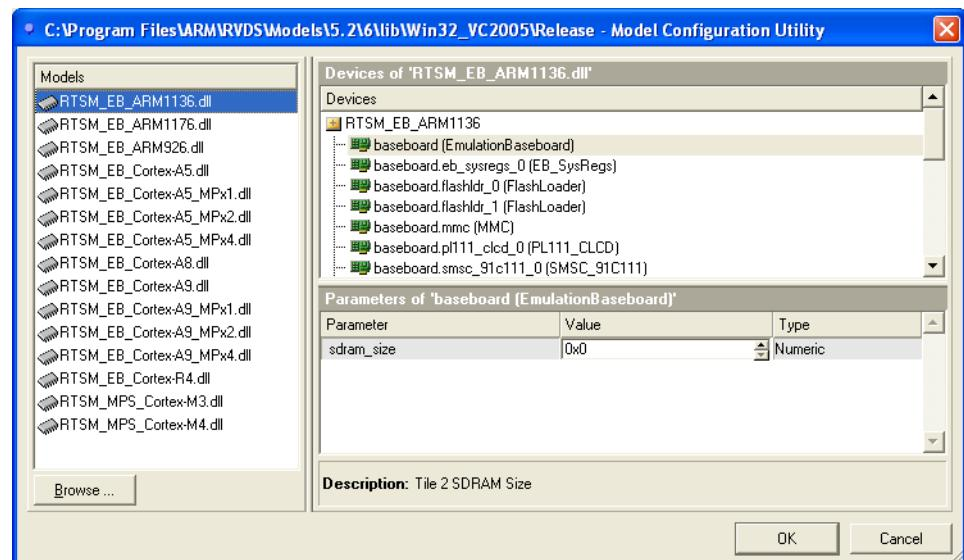

Figure 3-7 Model Configuration Utility dialog box (RTSM)
3. Click **Add** for the Real-Time System Model (RTSM) Debug Interface. The Model Configuration Utility dialog box is displayed. Figure 3-7 shows an example: